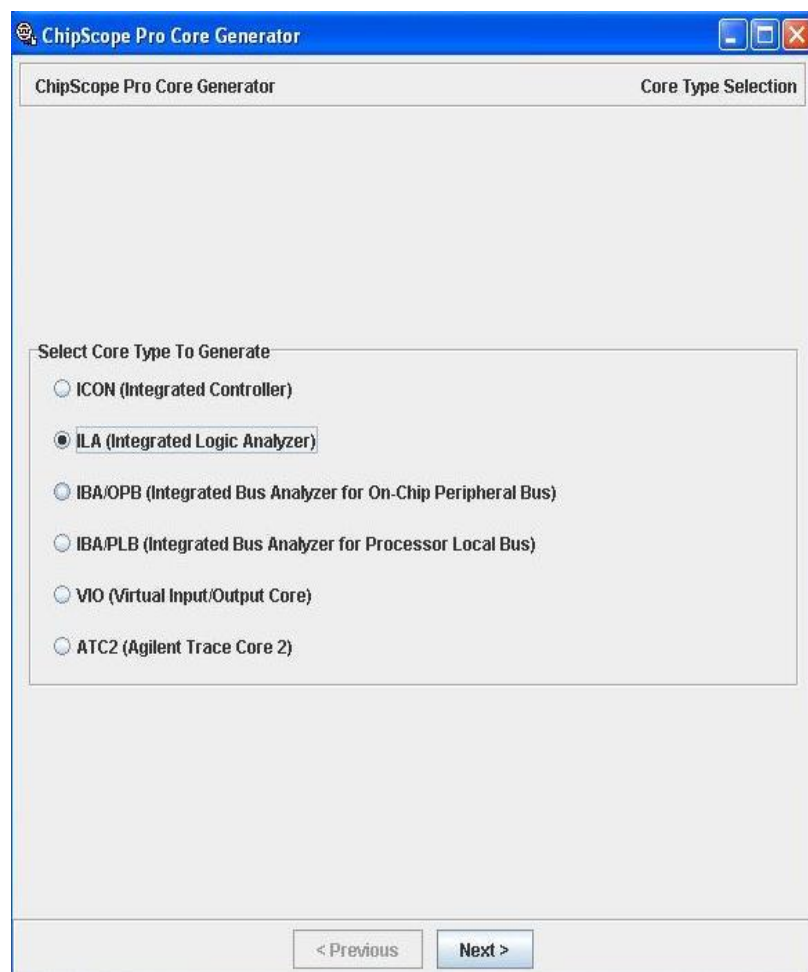

Fig 5.4: Selecting the ILA Core
2. Now select the **ILA (Integrated Logic Analyzer)** and click **Next** as shown in Fig 5.4.